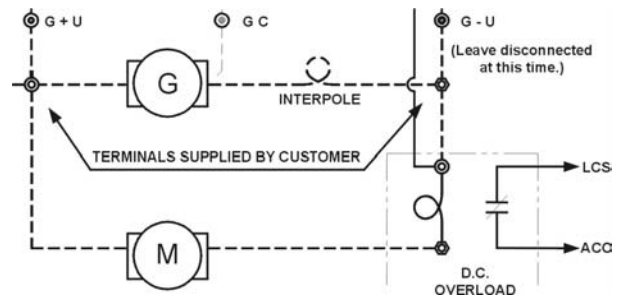

Figure 1-11
- The second is for the Motor Loop that consists of current conductors wired from the controller to the generator armature. [See Figure 1-11.]